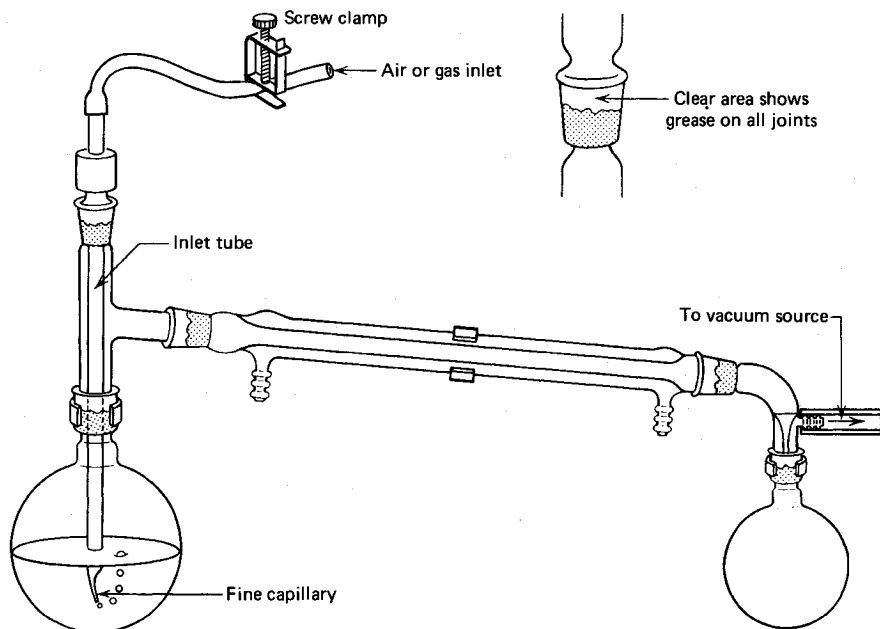

Fig. 74 A vacuum distillation set up.
2. another liquid boiling 25°C higher than the first liquid. They must dissolve in each other. This is like the **simple distillation** with the changes shown (Fig. 74).
2. The thermometer can be replaced by a **gas inlet tube**. It has a long, fine capillary at one end (Fig. 74). This is to help stop the *extremely bad bumping* that goes along with vacuum distillations. The fine stream of bubbles through the liquid produces the same results as a boiling stone. Boiling stones are useless, since all the adsorbed air is whisked away by the vacuum and the nucleating cavities plug up with liquid. The fine capillary does not let in a lot of air, so we are doing a vacuum distillation anyway. Would you be happier if I called it a **reduced pressure** distillation? An inert gas (nitrogen?) may be let in if the compounds decompose in air.